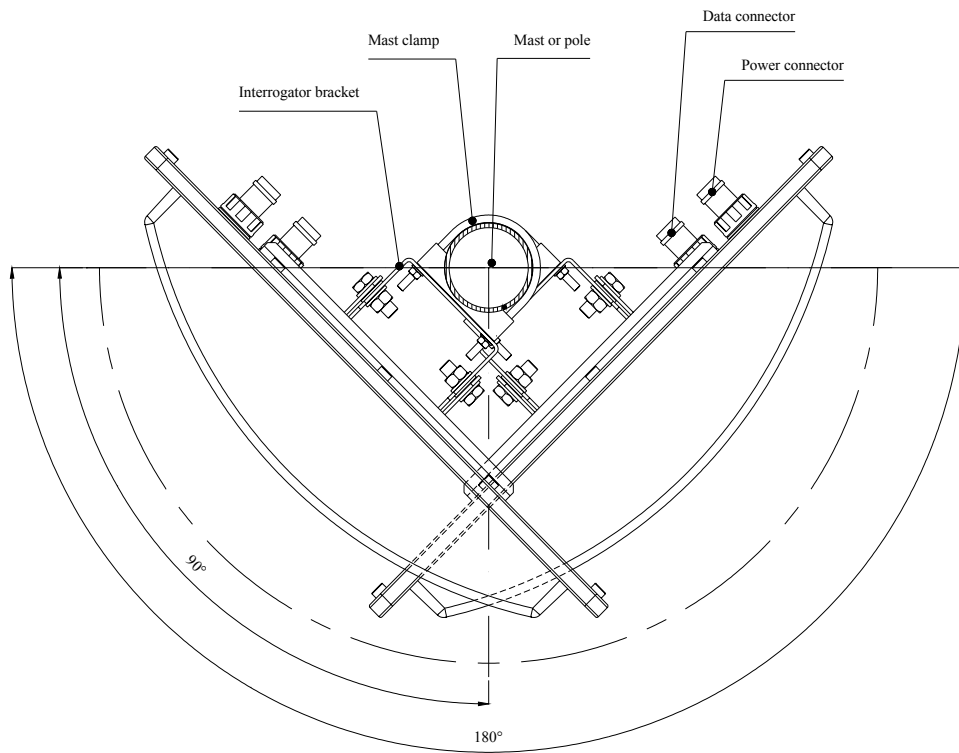

Figure 8 Dual Interrogator Unit mounted to mast or pole, top view
- During dual Interrogator installations, the two Interrogators should ideally be mounted with a 90 degree difference as shown in Figure 8. This will make it possible to cover 180 degrees.
3. A typical dual Interrogator solution that will cover a 180 degree sector, is shown in Figure 8. Dual Interrogator mounting is done similar to single Interrogator solutions.